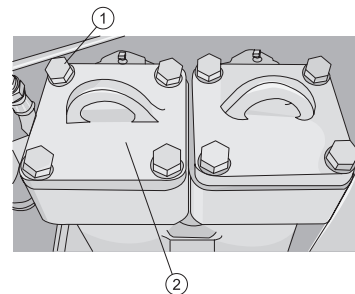
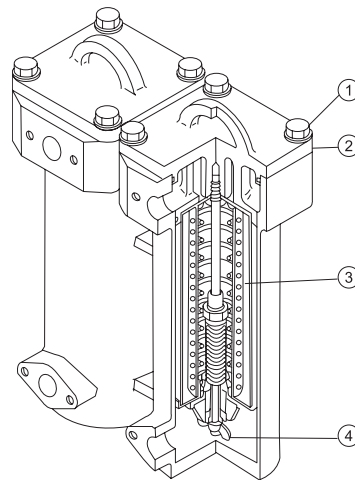

Figure 4-15
Figure 4-16
- Remove the bolt (1), pull up the cap (2), and take out the filter element and the valve along with the cap (2). Remove the butterfly-shaped nut of the tightening valve (4), and take out the filter element (3) from the oil filter. Clean the inner part of the housing and the parts removed, and install the new filter element in the oil filter. (See Figure 4-15 and Figure 4-16)